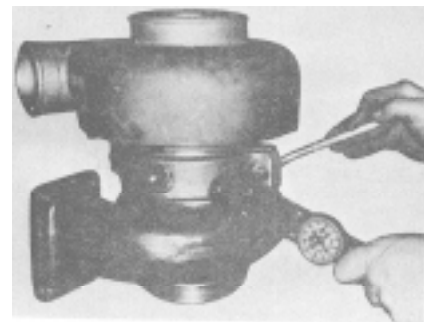

Fig. 10-36, T-421. Torquing "V" clamp bolts and nuts
16. Position "V" bands around casings, centering openings -of "V" bands over oil supply and drain ports, secure with new bolts, flatwashers and self-locking nuts; torque nuts to values listed in Specifications. Tap lightly to seat "V" band while torquing nuts. Fig. 10-36. Check clearance between turbine casing and V-band clamp. There must be a minimum of 0.035 inch [0.89 mm].